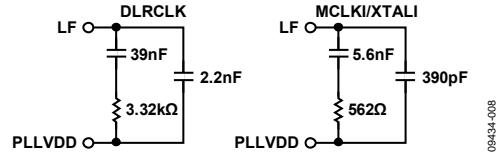
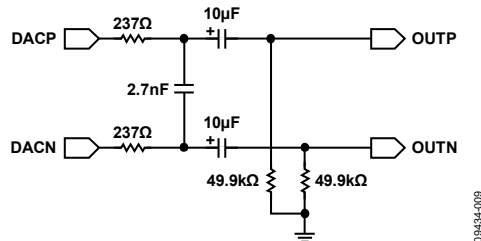
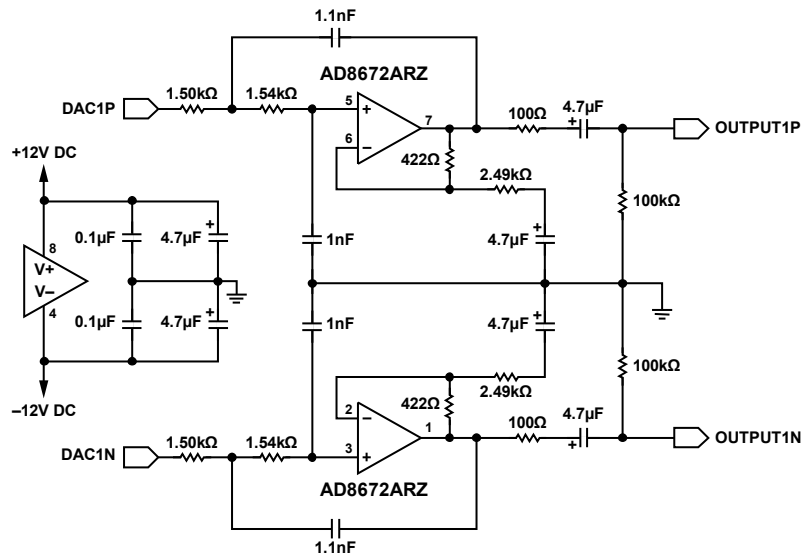
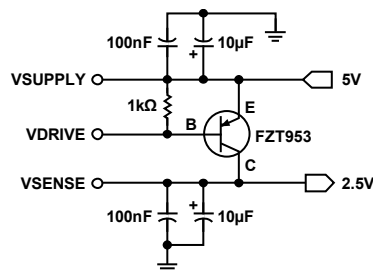

Figure 8. Recommended Loop Filters for DLRCLK or MCLKI/XTALI PLL Reference Modes
Figure 9. Typical DAC Output Passive Filter Circuit (Differential)
Figure 10. Typical DAC Output Active Filter Circuit (Differential)
Figure 11. Recommended 2.5 V Regulator Circuit
Typical application circuits are shown in Figure 8 to Figure 11. Recommended loop filters for DLRCLK and MCLKI/XTALI modes of the PLL reference are shown in Figure 8. Output filters for the DAC outputs are shown in Figure 9 and Figure 10, and an external regulator circuit is shown in Figure 11.
When AVDD is supplied with 5 V, each analog output pin has a nominal common-mode (CM) dc level of 2.25 V and swings ±8.49 V p-p (3 V rms differential) from a 0 dBFS digital input signal. An AVDD of 3.3 V generates a CM dc voltage of 1.5 V and allows differential audio swings of ±5.66 V p-p (2 V rms) from a 0 dBFS digital input signal. The differential analog outputs require only a single-order passive differential RC filter to provide the specified DNR performance; see Figure 9 for an example filter. The outputs can easily drive differential inputs on a separate PCB through cabling as well as differential inputs on the same PCB.
If more signal level is required or if a more robust filter is needed, a single op amp gain stage designed as a second-order, low-pass Bessel filter can be used to remove the high frequency out-of-band noise present on each pin of the differential outputs. The choice of components and design of this circuit is critical to yield the full DNR of the DACs (see the recommended passive and active circuits in Figure 9 and Figure 10). This filter can be built into an active difference amplifier to provide a single-ended output with gain, if necessary. Note that the use of op amps with low slew rate or low bandwidth can cause high frequency noise and tones to fold down into the audio band; exercise care when selecting these components.
The ADAU1966 PLL can also be programmed to run from an external LRCLK. When the  $\text{PLLIN}$  bits in the  $\text{PLL\_CLK\_CTRL0}$  register are set to 01 and the appropriate loop filter is connected to the LF pin (see Figure 8), the ADAU1966 PLL generates all of the necessary internal clocks for operation with no external MCLK. This mode reduces the number of high frequency signals in the design, reducing EMI emissions.